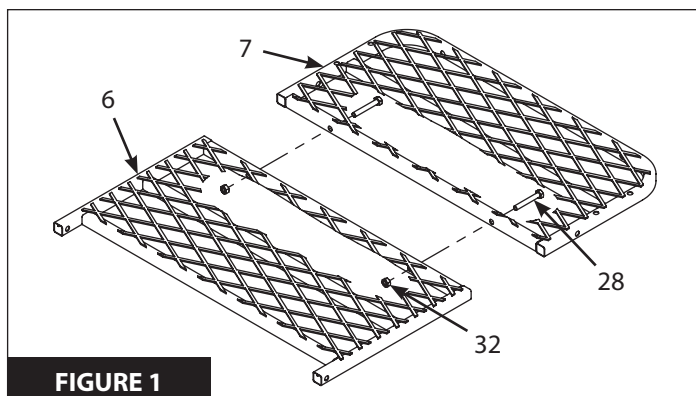

FIGURE 1
1. Attach the front platform (6) and the rear platform (7) together using two 5/16 x 18 x 2-1/4" bolts (28) and two 5/16" nuts (32). **SEE FIGURE 1**